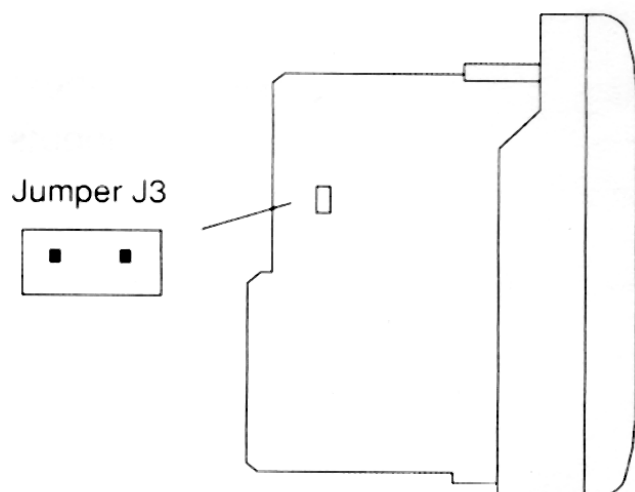

Figure 28. Analog Input Module Jumpers.
Whenever a new analog input module (AI) is installed, the voltage range setting for the module must be checked. The module that is installed at the factory is properly configured, however spare modules may not be properly configured. The voltage range must be configured for 5 volts for the EDOCS-120 to function properly. There is a smaller circuit board, which is on top of the motherboard. On this circuit board there is a jumper labeled “J3” (see Figure 28). If the jumper is not over the two pins, as shown in Figure 28, place it over the two pins, as shown. Install the module as described in paragraph 12.1.